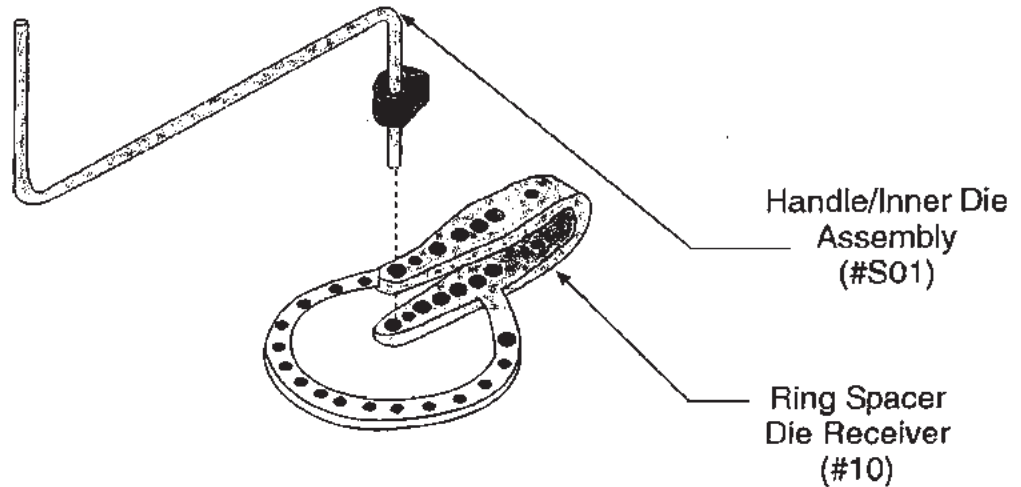

Figure 1 -- Handle/Inner Die Assembly
Step 1: Insert HANDLE/INNER DIE ASSEMBLY (#S01) into the RING SPACER/DIE RECEIVER (#10) of the Compact Bender. See Figure 1.